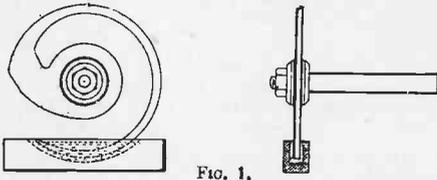

FIG. 1.
Divide the circles into 14 equal parts, as in Fig. 1. Into each part place the following: Into No. 1 place "Home Run;" into No. 2 put "Single;" into No. 3 put "Two-base Hit;" into No. 4 put "Four Balls;" into No. 5 put "Three-base Hit;" into No. 6 put "Hit by Pitched Ball;" into No. 7 put "Strike Two;" into No. 8 put "Out on First;" into No. 9 put "Out on a Fly;" into No. 10 put "Strike Three;" into No. 11 put "Base on Balls;" into No. 12 put "One Ball;" into No. 13 put "One Strike;" into No. 14 put "Foul Ball." Cut a $\frac{1}{2}$ " hole in the center of the circle to admit the shaft. Fasten the cardboard on the uprights having the shaft sticking thru the hole in the cardboard. Get a piece of wire 5" long and wind 3" around the shaft, leaving 2" outstretching for a pointer. Now connect up to a battery and a switch and it is ready for use.
inch deep, ½ inch apart, round the circumference of the circle. This will give 105 holes, and a space over. Make a set of pegs to fit the holes fairly tight, ⅜ inch brass wire is suitable; also 20 spacing pegs, as in Fig. 2 to occupy two holes. (A) Fig. 1 is a light bar pivoted at (B) and having at the other end a triangular-shaped piece (C). (A) carries a contact (E) which connects with the adjustable contact (E2) where (C) falls between adjacent pegs, thus actuating a buzzer, which is used to give signals in one's receiving set. To deaden the click, the working edge of (C) is covered with rubber. The spring (F) ensures the bar
Essentially, the rheostat consists of a curved rod of graphite, submerged in water and so mounted that its effective length is varied by rotating an axle which serves at the same time as one of the current leads. The graphite resistor, which has the general form shown in Fig. 1, is sawed out of a plate of Acheson graphite, conveniently $\frac{1}{4}$ in. thick. It is centrally mounted on a stout horizontal axle, so that its rim runs with liberal clearance in a suitably shaped hollow milled in a block of copper. This hollow is filled with mercury, thus providing electric contact between the copper and graphite. Cooling is effected by enclosing the whole in a wooden box thru which water circulates. It is evident that by rotating the axle the resistance interposed between the axle and the copper block may be varied from practically zero up to a maximum determined by the shape and dimensions of the graphite resistor, in particular by the thinness of its "tail." Since this part of the resistor is not subject to any mechanical strain, it may, if desired, be given a very small cross section.
ELECTRICAL MASSAGE MACHINE (Fig. 1)—A suction electro-magnet pulls the applicator forward, which action breaks the magnet circuit. A spring returns the applicator, et cetera.